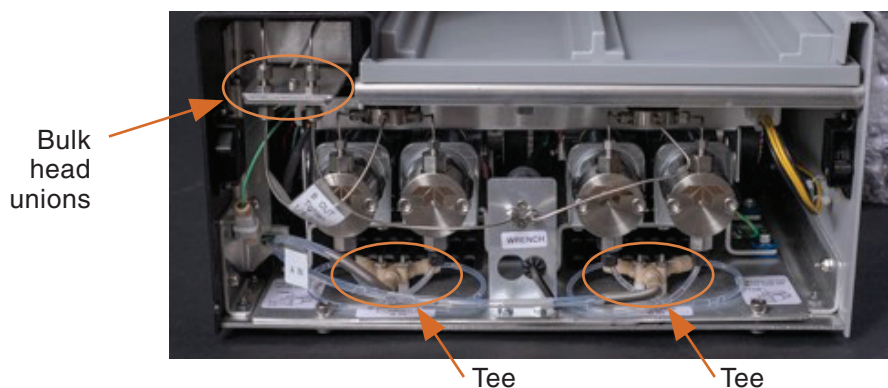

Figure 2-7 Line connections on the pumps
2. The right two pump heads form the B solvent pump and the outlets are connected to a tee. The outlet tee on this side is connected to the pressure transducer in the middle of the assembly. The remaining connector on the pressure transducer must be connected to the right bulkhead union. Tighten this fitting with the 1/4" open end wrench (Figure 2-7).